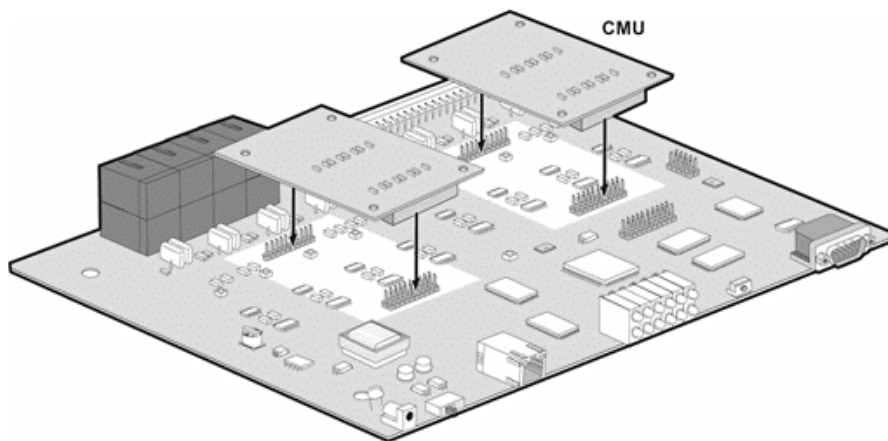

Figure 6.5-2 Installing a CMU module with LGCM8
To install the CMU on an LGCM, first remove all connections to the LGCM module. Then, follow the instructions below referring to Figure 6.5-1 and Figure 6.5-2.
4. Repeat steps 2 and 3 to install the second CMU for a LGCM8, Figure 6.5-2